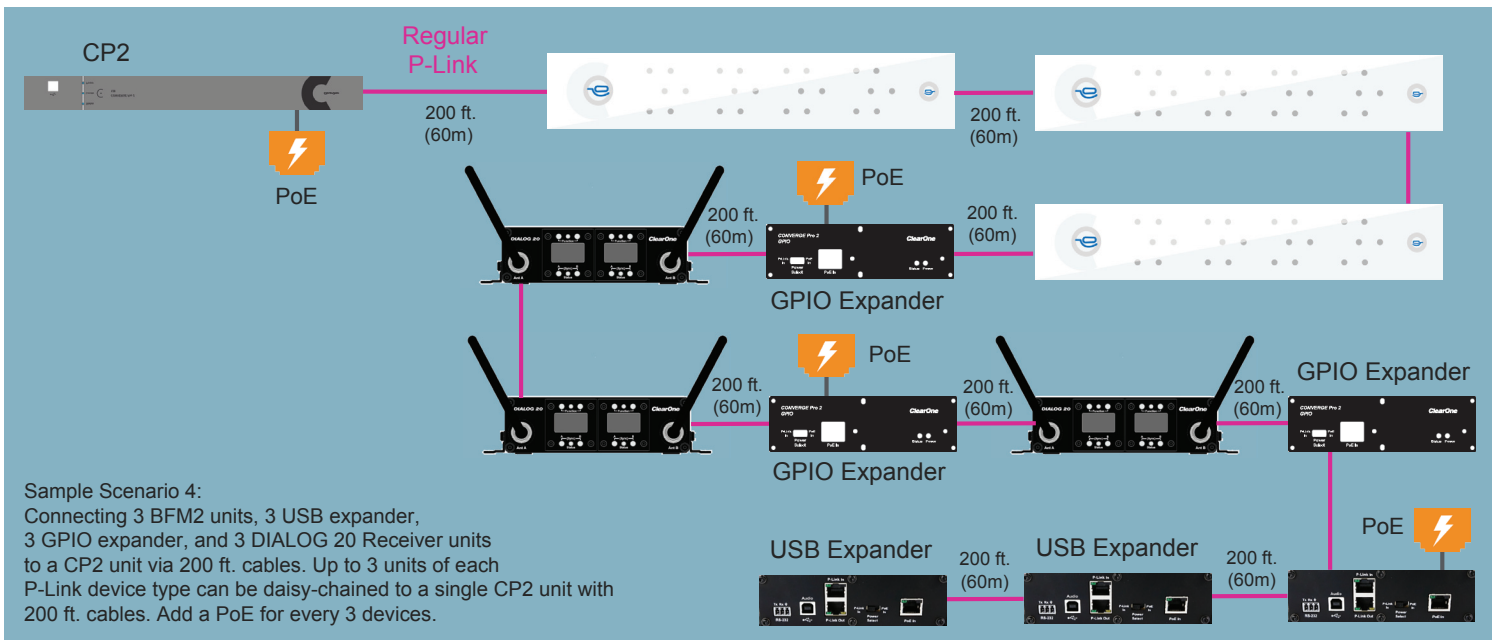

Figure 6
3. Press center tip of ceiling tile cutter (M) into finished side of ceiling tile at marked location. Cut suspension column hole through tile using back and forth hand twisting motion. Or use Figure 6 to the right for the cutout:
5. Install tray (A) on top of ceiling tile so that end brackets engage primary (1.5" (38mm) high) rails of ceiling framework.